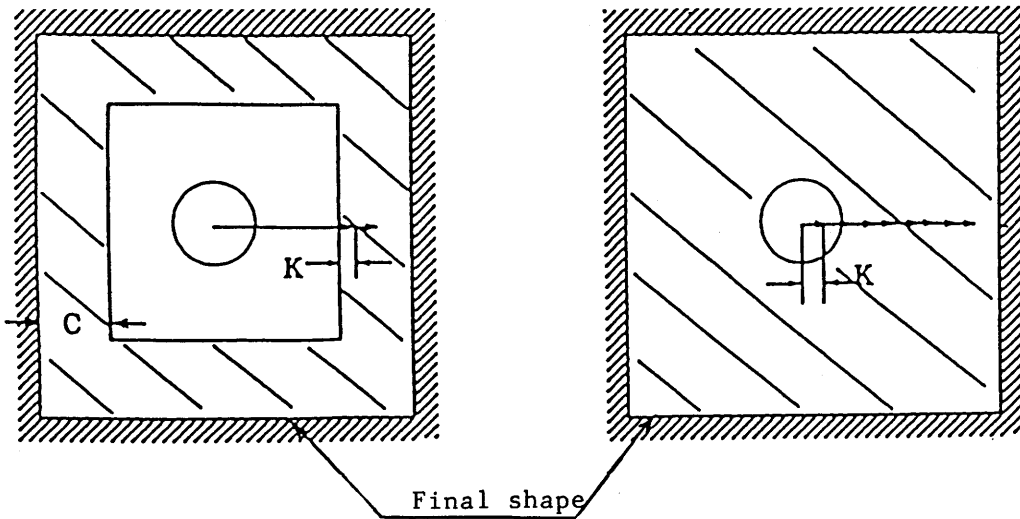

Fig. 7.3
- (a) When the semi-finished hole is machined, command cutting depth (C) of one side. When no the command (C) is given, it is presumed that no semi-finished hole is machined, and cutting is preformed from the center. (Fig. 7.3)
- (b) When the cutting width (K) is  $\ominus$ , no finishing is performed in the side face direction.
- (c) When the cutting depth per cutting (Q) is  $\ominus$  in the 3rd axis direction, no finishing is performed in the 3rd direction.